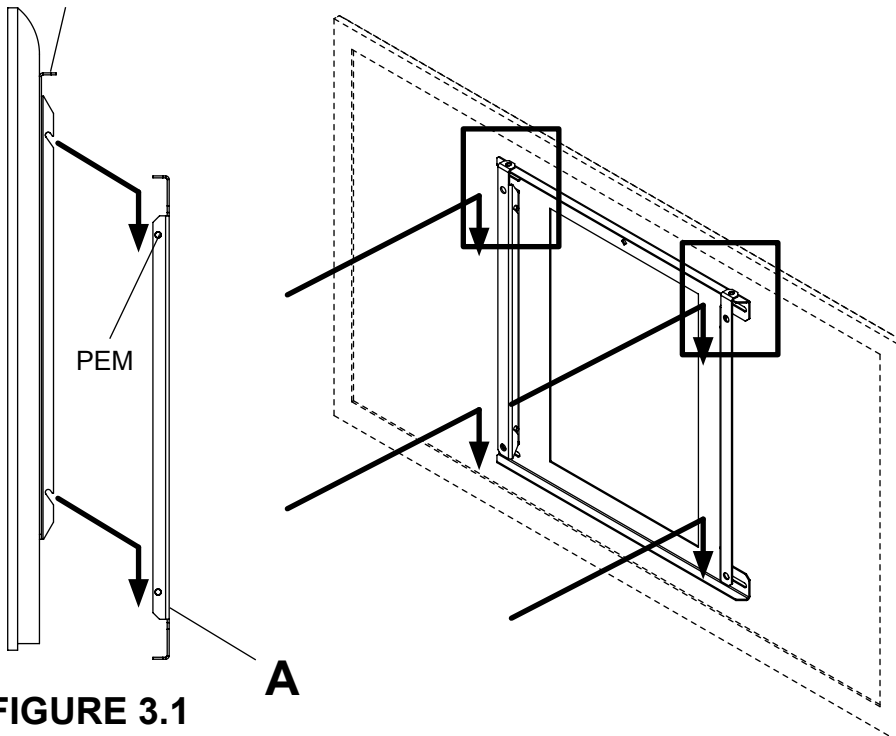

FIGURE 3.1
- 3** Hook right and left hook brackets (**B** and **C**) onto pems on wall plate (**A**) as shown in Figure 3.1 Detail 2.